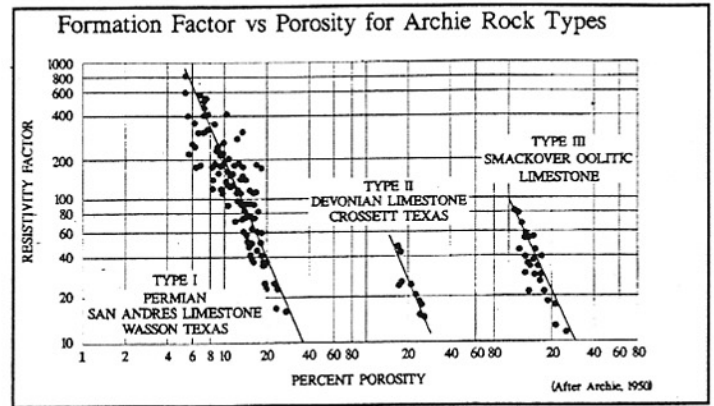

Figure 4
- Visually determine carbonate porosity and the Archie rock type then enter the cross plot by Archie (Fig. 4).